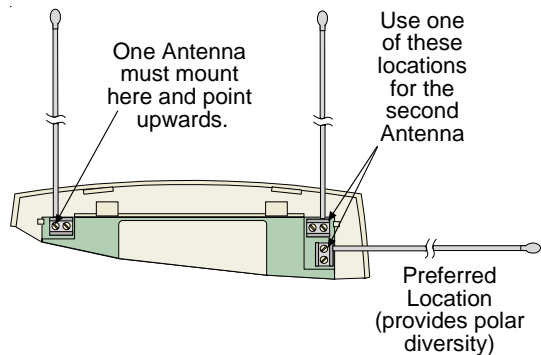

Figure 6 - Connecting Antennas
- Insert an Antenna into the outside terminal on two of the Antenna Connectors as shown in Figure 6. Tighten screws to secure the Antennas.